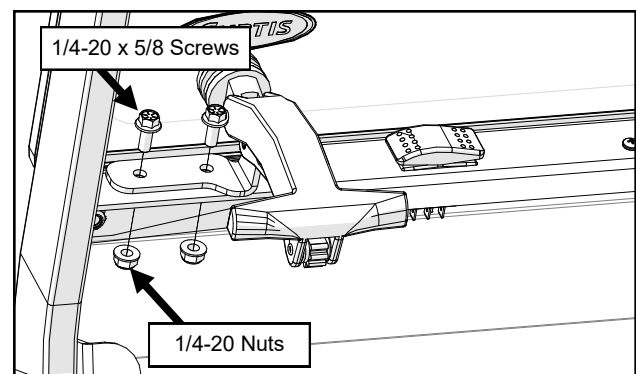

Fig. 11.3 (Secure Windshield Latches)
- 11.3** Secure the windshield latches to the side frames with the latches open, and tighten latch hardware. See Figure 11.3.